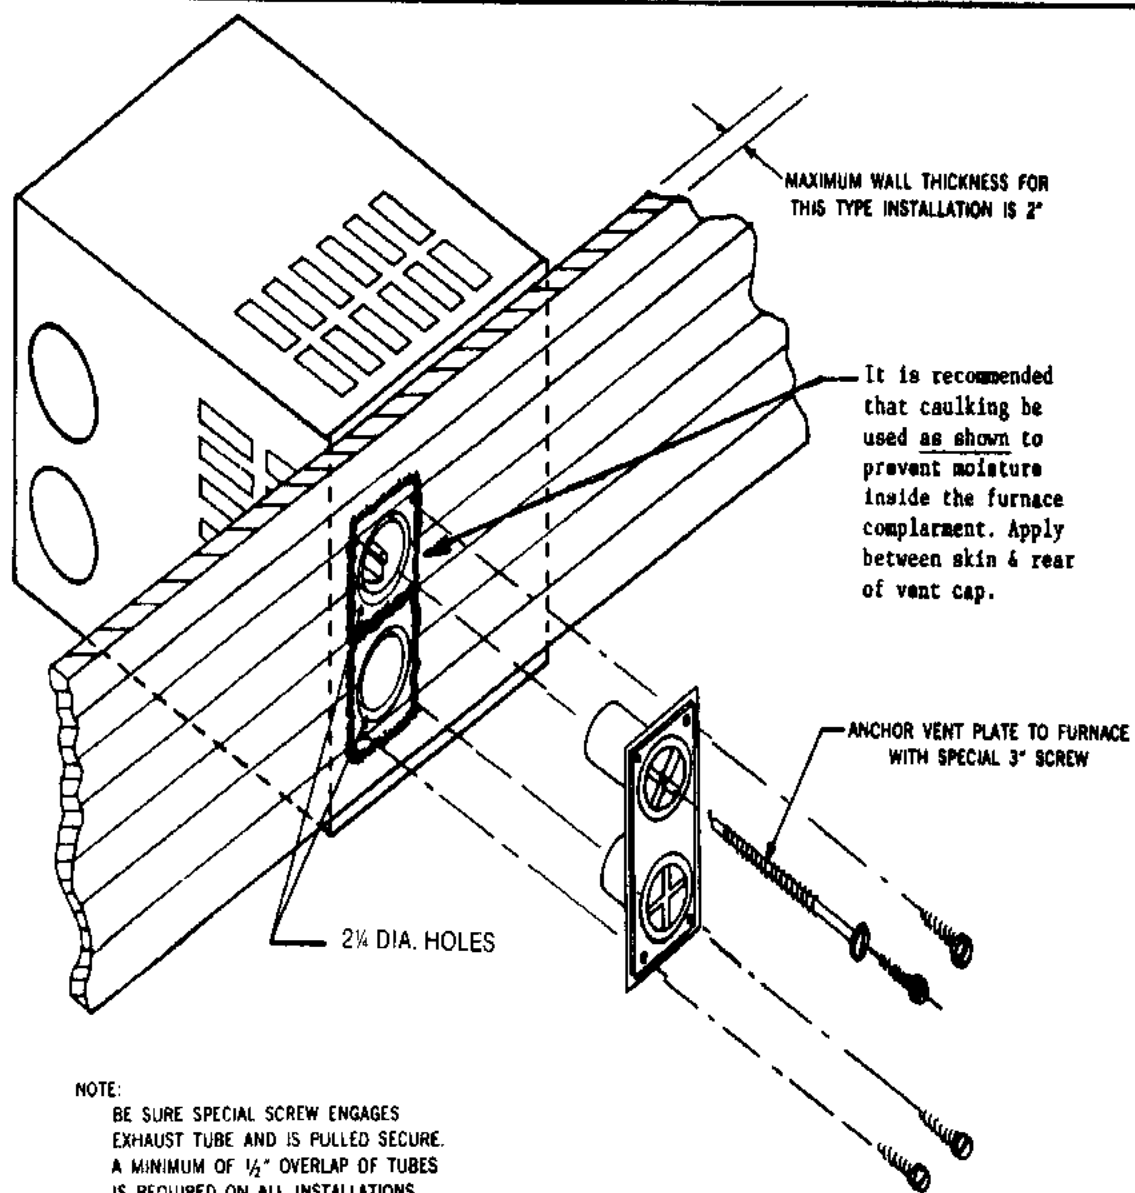

Figure 2
4. Be certain that the spark from the electrode never reaches the flame sensor portion of the electrode assembly. (See Figure 2 for correct gapping).
2. Remove vent cap assembly (4 sheetmetal screws and one 3" exhaust baffle screw, see Figure 2).